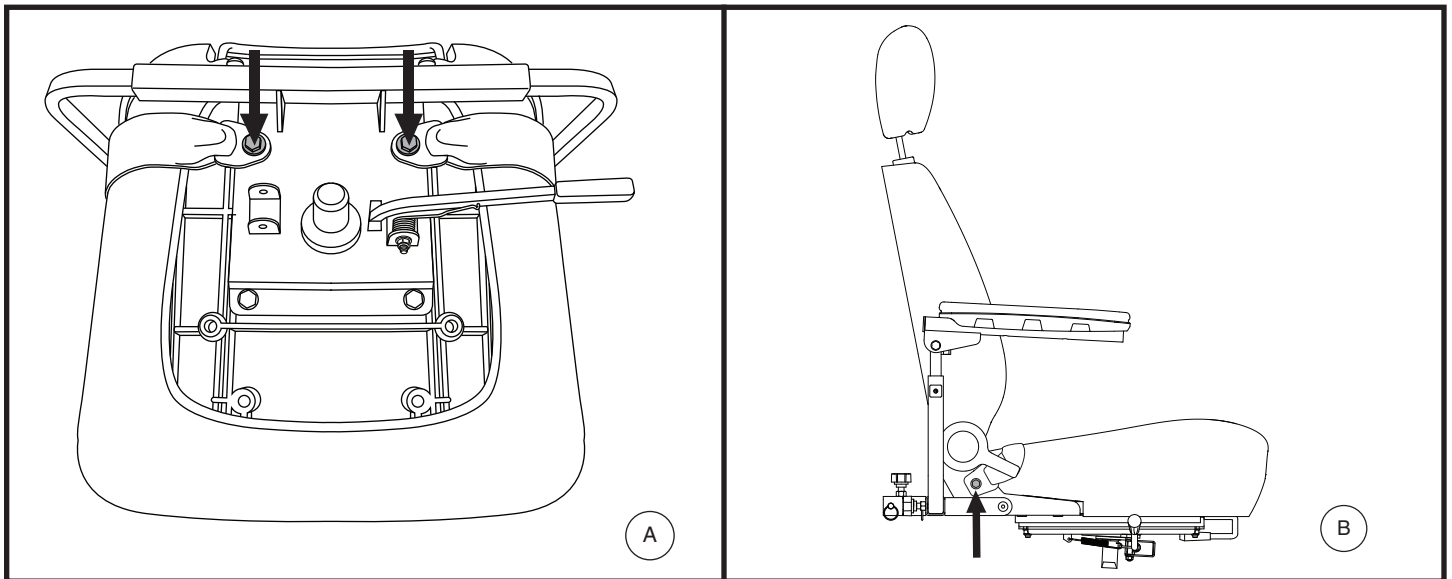

Figure 17 Positioning Belt Bolts
Your scooter seat may be equipped with a positioning belt that can be adjusted for operator comfort. See figure 17. The positioning belt is designed to help support the operator so that he or she does not slide down or forward in the seat. The positioning belt is not designed for use as a restraining device.
2. Place the seat upside down so that you can see the bottom of the seat base. See figure 17.